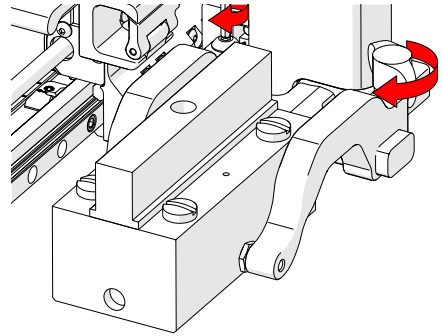

Fig. 39 - Pivot buttons
7. Tighten both the probe holder adjustment knob and the arm clamp screw (Fig. 39) while ensuring the wedge remains centred with the yoke.